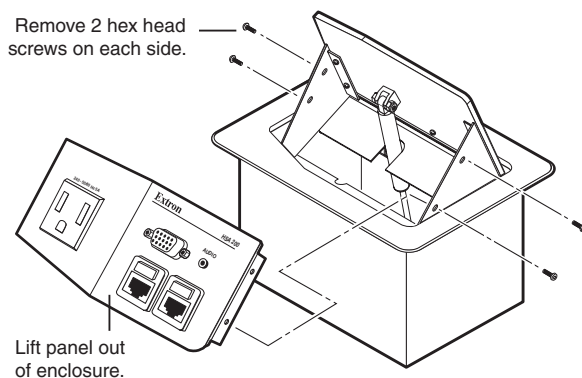

Figure 22. Removing the Front Panel
4. Remove the four 1/16" hex head screws on the right and left sides of the front panel (see figure 22). Retain the screws. Lift the panel away from the enclosure.